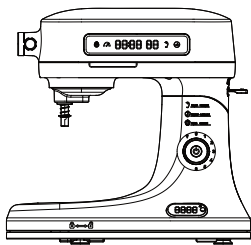
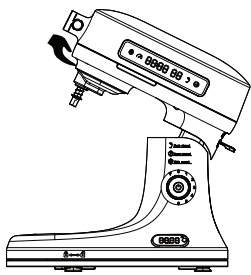

Figure 1
Figure 2
- 1 - Put the packaged appliance on the counter, hold the upper cover with your left hand, then press the head release button with your right hand (Figure 1), the head will automatically lift upward, the left hand gently holds the head up until the click sound is heard, the appliance is fully opened and locked (Figure 2)